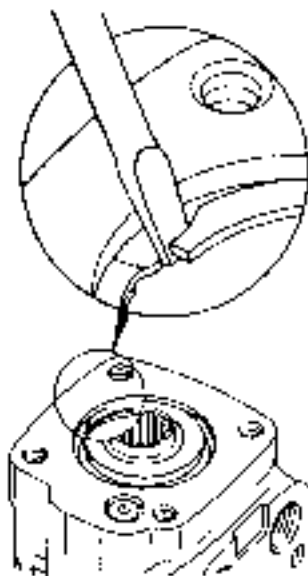

Fig. 8
8. Remove housing (21) from the vise, and place it on a clean piece of cloth, taking care not to damage the finished surfaces.
Remove snap ring (20) from housing (21) by prying with small screwdriver. (Fig. 8)
小さいドライバーでスナップリング(20)の端を起し、ハウジング(21)から外す。(Fig. 8)